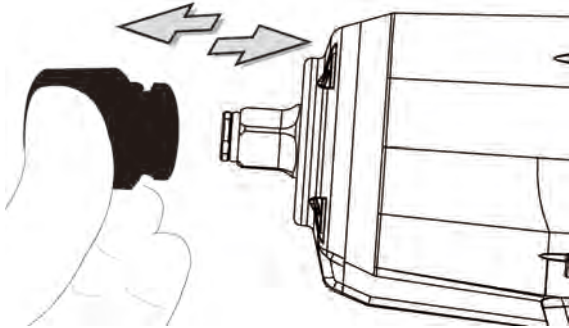

Fig.1
1. To install the socket, push the socket into the driving spindle as far as it will go. (See Fig.1)